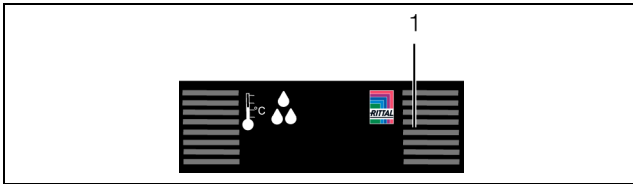
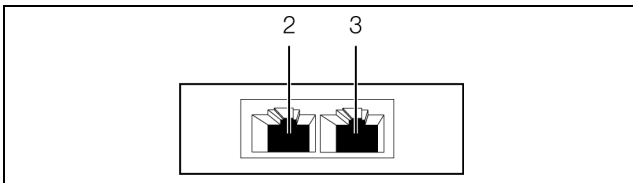

Fig. 8: Front of the temperature/humidity sensor
Fig. 9: Rear of the temperature/humidity sensor
A multi-LED for the status display is integrated into the front of the temperature/humidity sensor (fig. 8, item 1). Further LEDs are located at the rear on the CAN bus connection (fig. 9, item 2 and item 3).